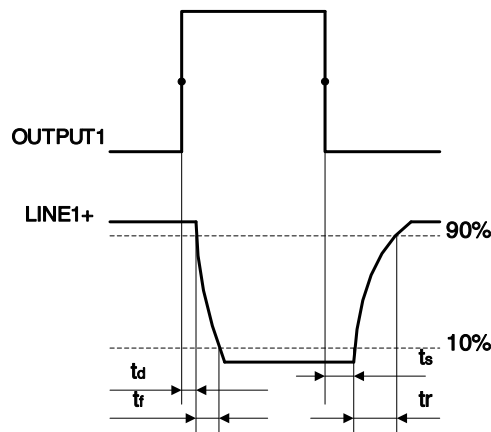

Figure 6-20 Parameter of TTL output circuit
- Rising time delay = t_d+t_f : $<4\mu s$ ($0^\circ C\sim 45^\circ C$) (parameter description is shown in Figure 6-20)
- Falling time delay = t_s+t_r : $<4\mu s$ ($0^\circ C\sim 45^\circ C$) (parameter description is shown in Figure 6-20)